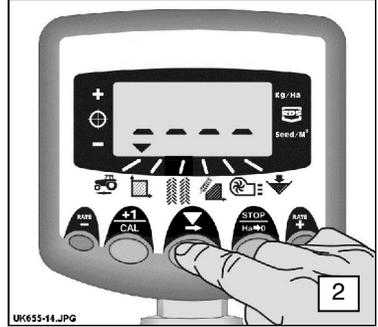

Figure 19: Change Units
2. Press the  button to change units (fig. 19).